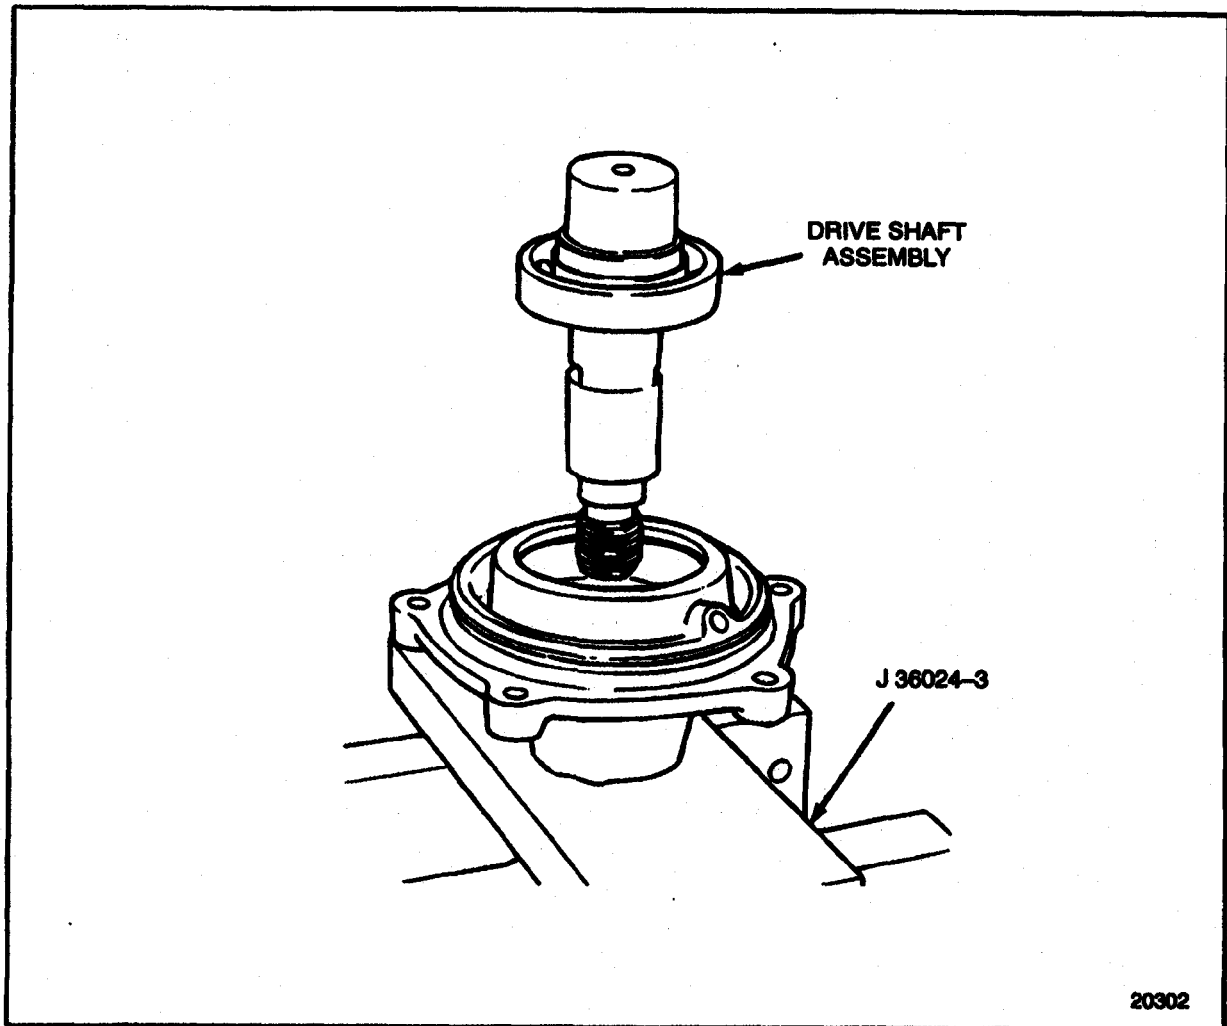

Figure 1-417 Drive Shaft Installation
9. Install the drive shaft to the housing. See Figure 1-417.